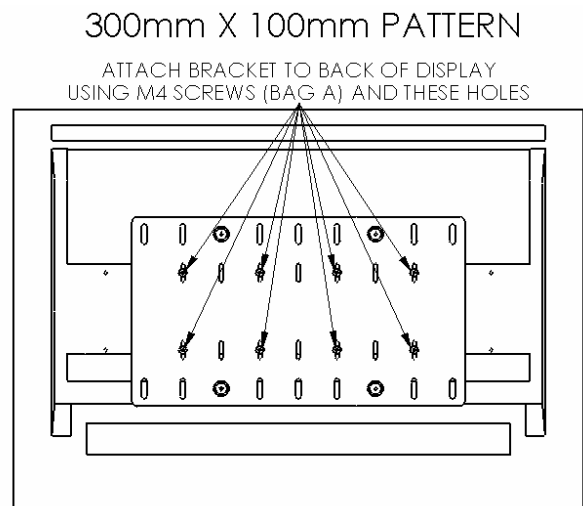

Figure 7. Display with 300mm x 100mm Hole Pattern
2. Attach the MSP-MSBTW1 (10) using the hole-pattern on the back of your display as shown in Figure 7.